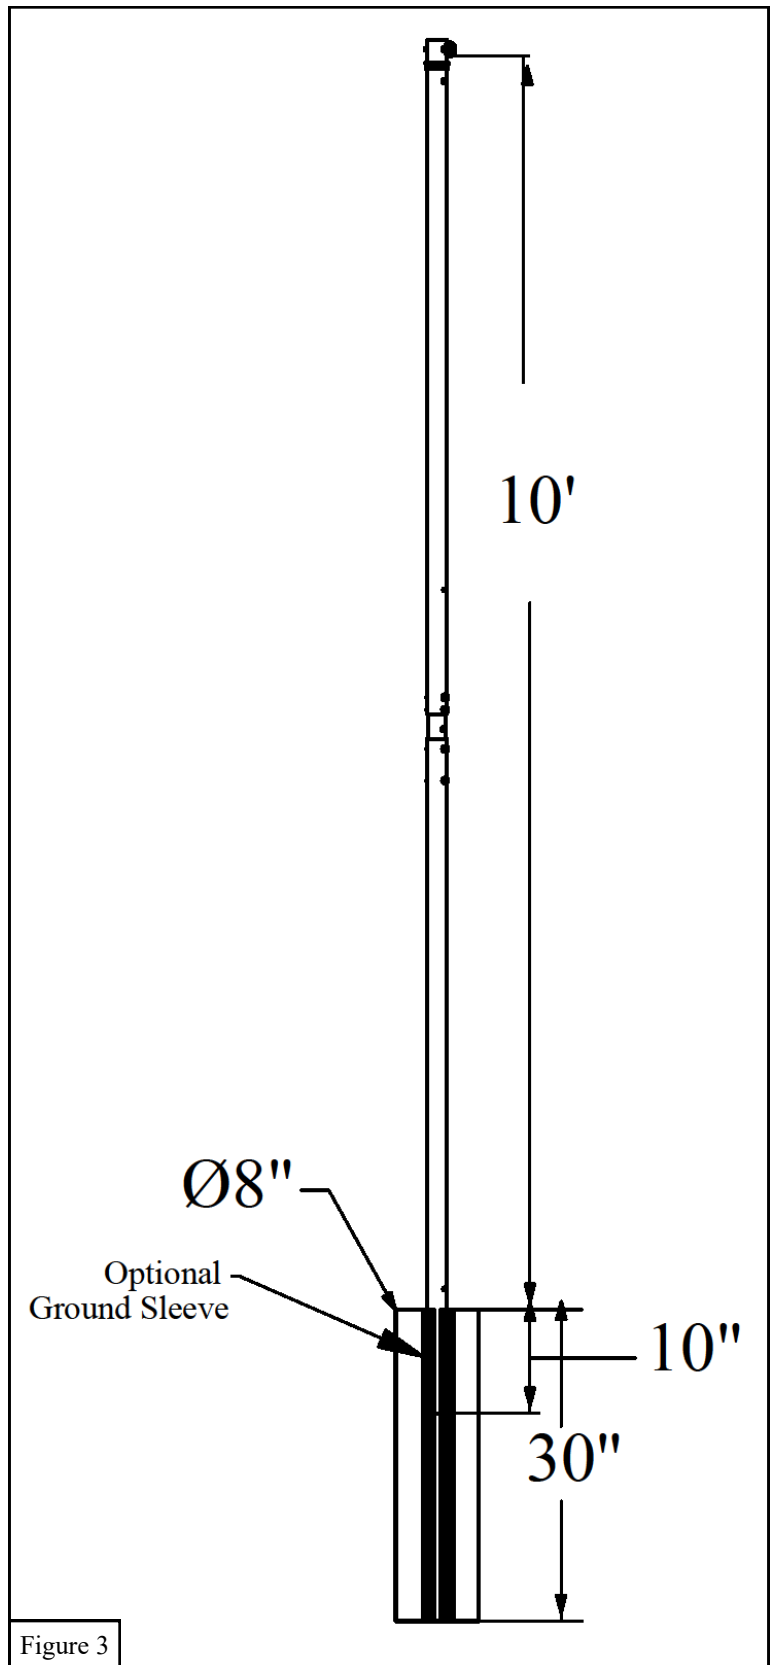

Figure 3
4. If you intend to permanently install the Tetherball Pole (A) into the ground, dig an 8" diameter by 30" deep hole and proceed to instruction #5. See Figure 3.
5. If you intend to use the optional Ground Socket (I) to allow removal of the tetherball pole assembly when not in use, follow the instructions provided in the optional Ground Socket (I).
6. Mix the 60# Premix Concrete (J) to relatively dry consistency and fill the hole to within approximately 2" from the top.
7. Insert Tetherball Pole (A) or pole/socket assembly into the center of the concrete agitating it as it is lowered. Ensure the Tetherball Pole (A) extends 10' above the playing surface and is plumb as the concrete cures. See Figure 3.
8. Add 60# Premix Concrete (J) if necessary to fill the remaining void, finish top of concrete and wipe excess concrete from pole assembly (A).
9. Install the TB50-B Tetherball Assembly (H) onto the pole assembly using instructions supplied with the TB50-B Tetherball Assembly (H) after the concrete is fully cured.